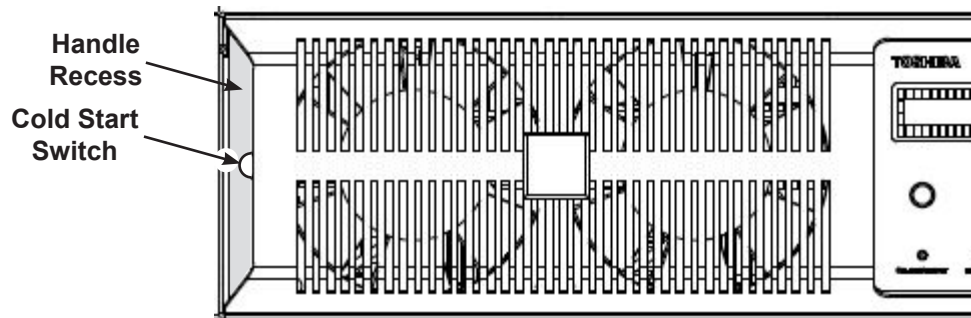

FIGURE 14-1: COLD START SWITCH LOCATION
5. Press (no holding required) the cold start button located opposite the front panel display. It is partially obscured by the handle recess. (Fig. 14-1)